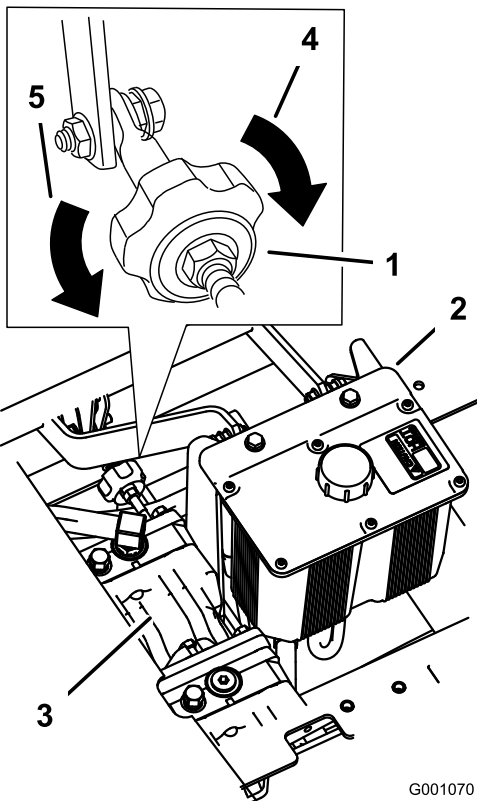

Figure 61
- If the machine tracks to the right, turn the knob toward the left of the machine; refer to Figure 61.
- If the machine tracks to the left, turn the knob toward the right of the machine; refer to Figure 61.